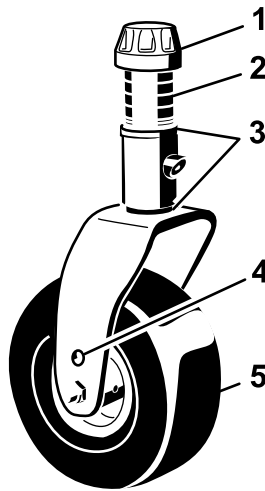
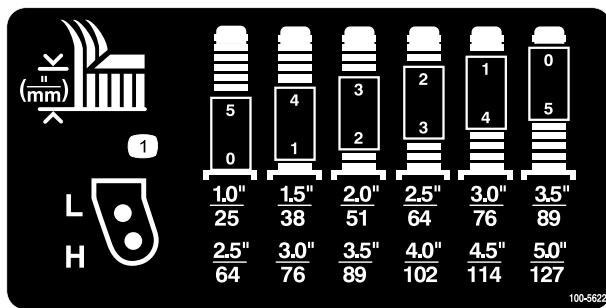

Figure 6
Figure 7
2. Position the castor wheel axles in the same holes in both castor forks. Refer to Figure 6 and Figure 7 to determine the correct holes for the setting.
3. Remove the tensioning cap from the spindle shaft (Figure 6) and slide the spindle out of the castor arm. Put the 2 shims (1/8 inch) onto the spindle shaft as they were originally installed. These shims are required to achieve a level across the entire width of the cutting units. Slide the appropriate number of 1/2 inch spacers onto the spindle shaft to get the desired height-of-cut; then slide the washer onto the shaft.
Refer to Figure 7 to determine the combinations of spacers for the setting.